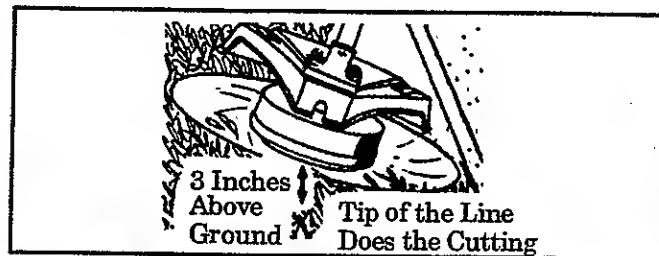

Figure 11
1. **TRIMMING** - Figure 11. Hold bottom of the trimmer head about 3 inches above ground and at an angle. Allow only the tip of the line to make contact. Do not force trimmer line into work area.